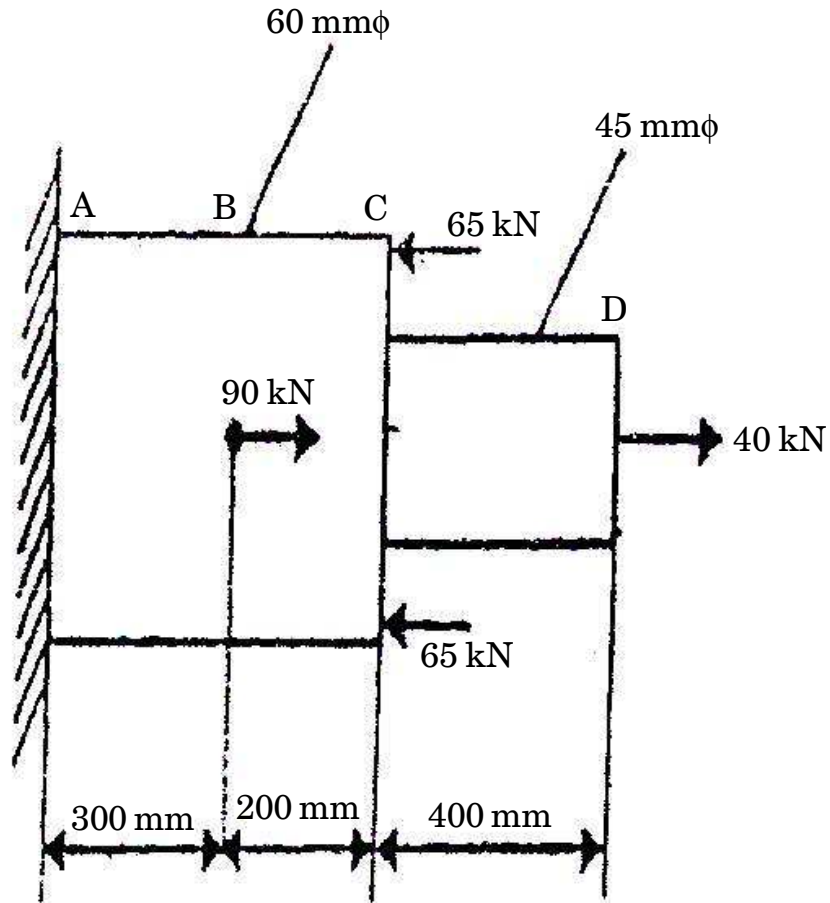

Fig. 2
- (b) Two cylindrical rods AC and CD, both of the same alloy ($E = 70 \text{ GPa}$) are welded together at C and subjected to loading as shown in Fig. 2.